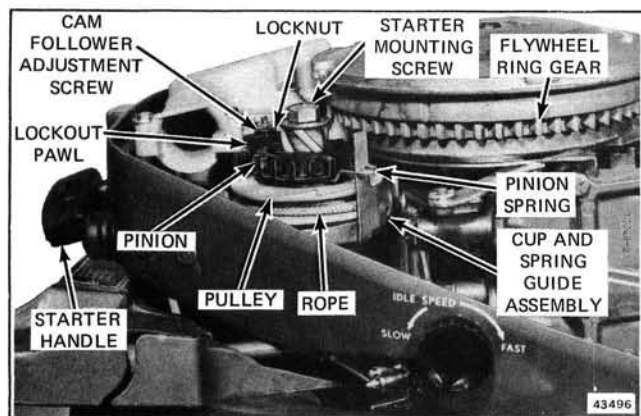

Figure 8-1. Manual Starter
The gear drive starter is a design employing the principles of automotive type starters. The nylon pinion gear slides upward and engages the flywheel ring gear as the starter rope is pulled, and automatically disengages when the motor starts. The ratio between the pinion gear and the ring gear has been selected to provide maximum cranking speed with minimum pulling effort to ensure fast, easy starting. See Figures 8-1 and 8-2. A lockout pawl linked to the cam follower prevents manual starter engagement if throttle is advanced beyond start position.
2. Hold starter pulley and spring in cup, and position starter on manifold as shown in Figure 8-1. Thread mounting screw into manifold and torque to specifications. See Section 2.